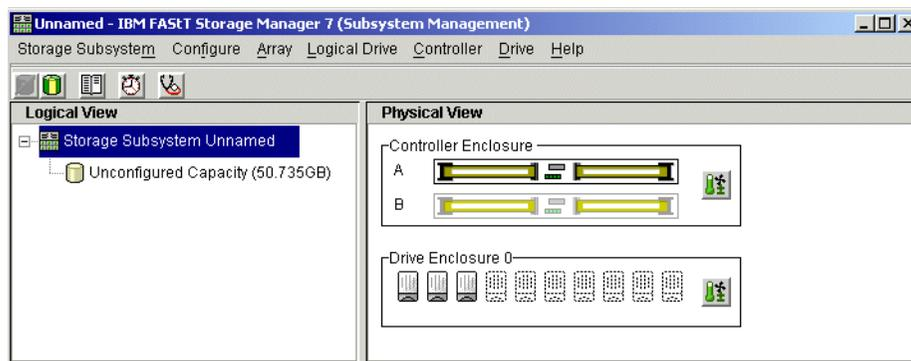

Figure 5-9 Storage Manager 7 Subsystem Management window
5. The Storage Manager 7 Subsystem Management window is displayed, as in Figure 5-9: